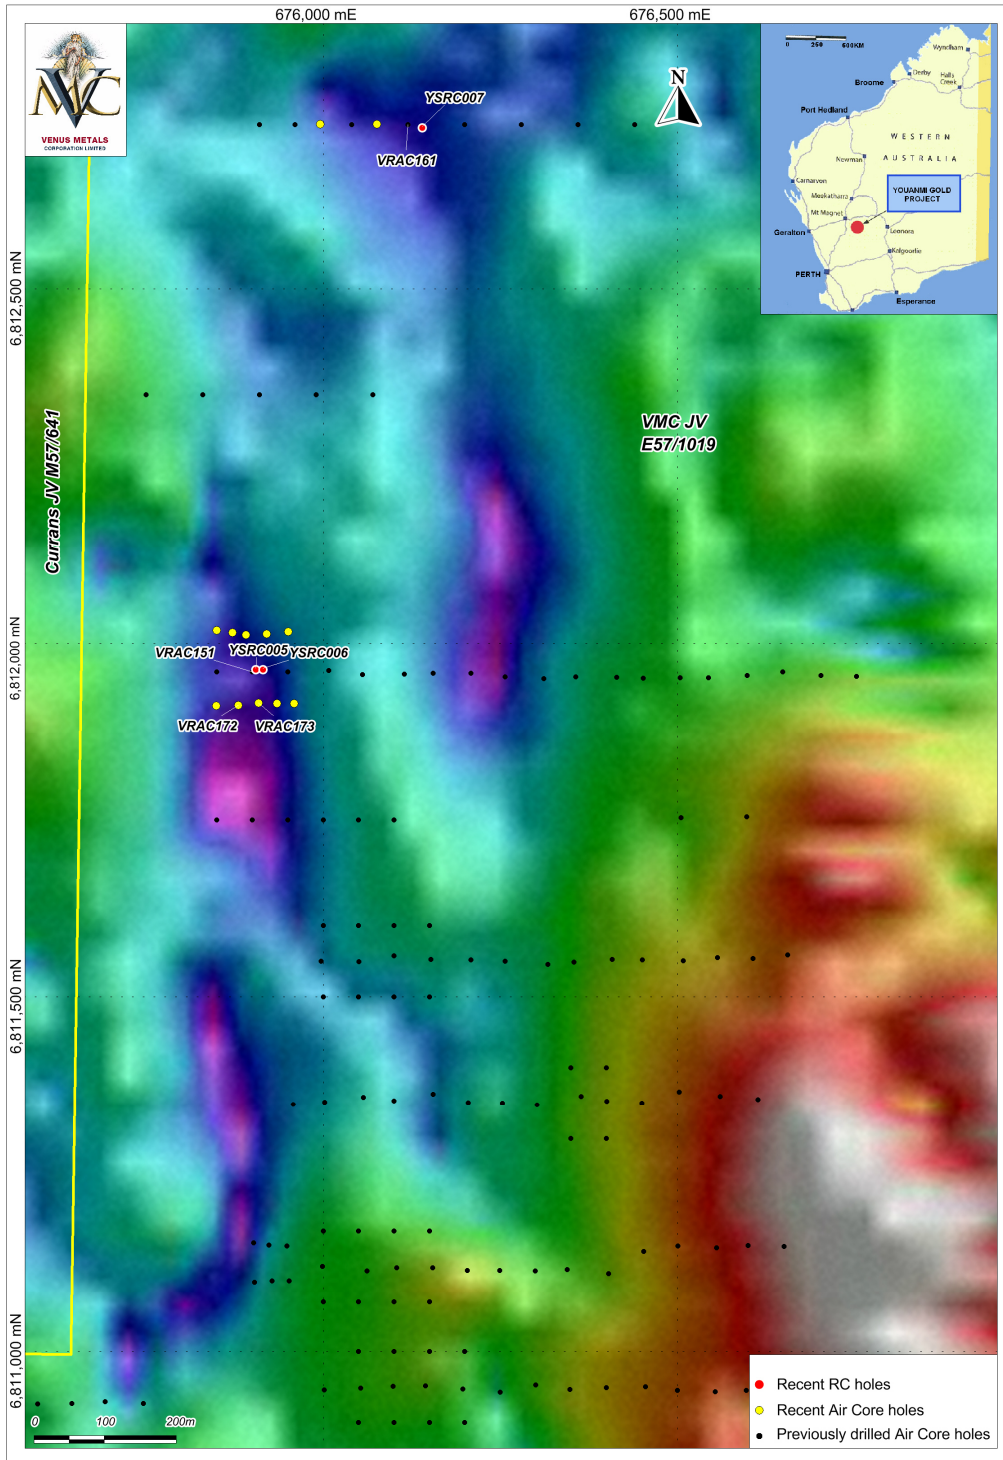

Figure 1. Location of RC and AC drillholes shown on high resolution Aeromagnetic image
Venus Metals Corporation Limited (“Venus” or the “Company”) in conjunction with its Joint Venture partner Rox Resources Limited (ASX: RXL), is pleased to announce the results of a reverse circulation (RC) and air core (AC) drilling program at its **Sovereign Prospect**, Youanmi Gold Project (Figure 1). RC drilling followed up on previous results (refer ASX release 4 November 2019) and AC drilling extended the recently discovered gold mineralization along strike to the south.
The gold intersections (>1g/t Au) appear to trend approximately south coinciding with a marked low shown in the high-resolution (50m line spacing) aeromagnetic data (Figure 1).